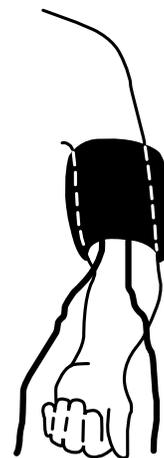

Figure 1. Cuff placement on the arm.
3. Wrap the cuff snugly around the upper left arm above the elbow, as shown in Figure 1.
- Check the cuff placement on the arm (see Figure 1).